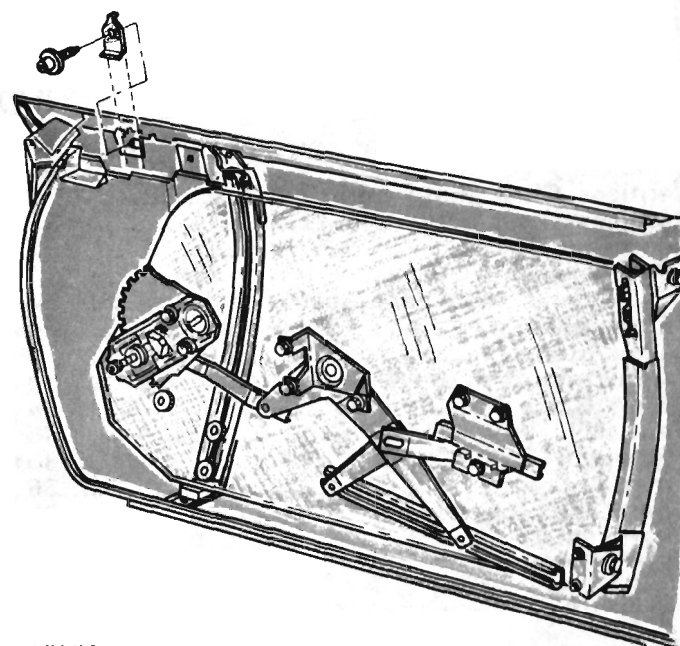

Fig. 3 - Glass Up-Stops
(5) Tighten pivot bracket and support screw assemblies.
(6) Set front up-stop down against bumper on glass.
(7) Tighten up-stop bracket screw on inner panel (Fig. 3).
(8) Set rear channel up-stop wedge down against stop in rear frame.
(9) Tighten rear channel and bracket upper attachment screw.